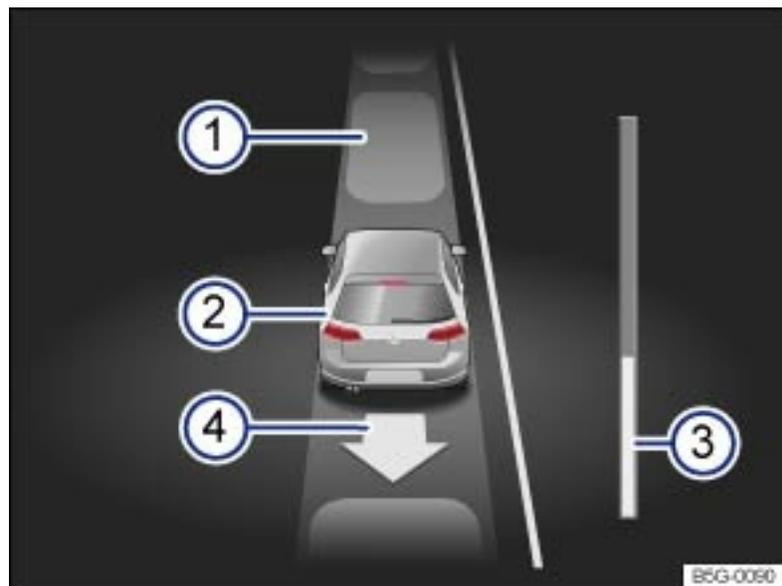

Fig. 175 In the instrument cluster display: Driving out of a parallel parking space.
Key to → Fig. 175:
The progress bar → <a href="#">Fig. 175</a> ③ displays the distance left to be traveled → <a href="#">Progress bar</a> .